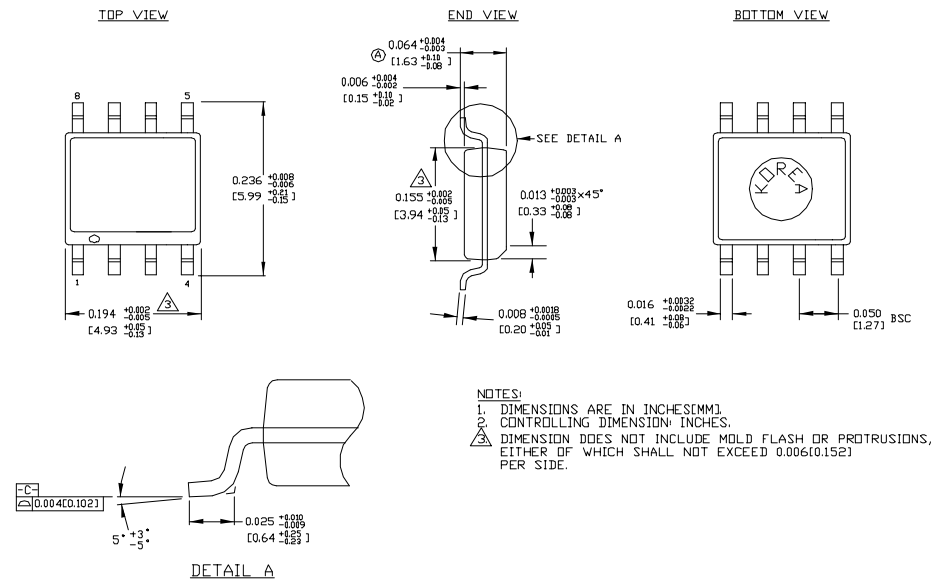

**Figure 8. Guard Traces/Kelvin Ground Returns**
2. Since any conductance from the various voltages on the PC Board and the A2/T1 pin can induce serious errors, it is good practice to guard the remote diode's emitter trace with a pair of ground traces. These ground traces should be returned to the MIC184's own ground pin. They should *not* be grounded at any other part of their run. However, it is *highly desirable to use these guard traces to carry the diode's own ground return back to the ground pin of the MIC184, thereby providing a Kelvin connection for the base of the diode. See Figure 8.*
3. *When using the MIC184 to sense the temperature of a processor or other device which has an integral on-board "diode" (e.g., Intel's Pentium® III), connect the emitter and base of the remote sensor to the MIC184 using the guard traces and Kelvin return shown in Figure 8. The collector of the remote "diode" is inaccessible to the user on these types of chips. To allow for this, the MIC184 has superb rejection of noise appearing from collector to GND, as long as the base to ground connection is relatively quiet.*